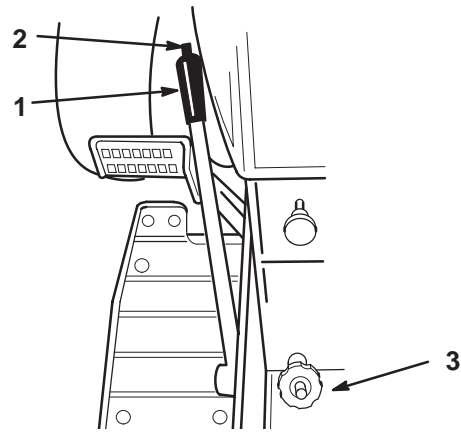

Figure 17
The attachment lift lever is used to raise and lower various attachments (Fig. 17).
The Dial-A-Height control is used to limit the downward travel of attachments other than mowers (Fig. 17). For example, use the Dial-a-Height to hold the blade or snowthrower above a gravel drive to prevent picking up stones or hold the tiller at a selected depth. For mowing, turn the Dial-a-Height fully counterclockwise until the knob contacts the plastic thread cap, so the mower can move through its full range of travel. Use the mower's height control to set cutting height. To use the Dial-a-height:
1. Raise the attachment lift lever; refer to Raising Attachments. In the raised position the Dial-A-Height knob (Fig. 17) can be rotated to change the stop location. Turn right to raise and left to lower the height of the attachment.